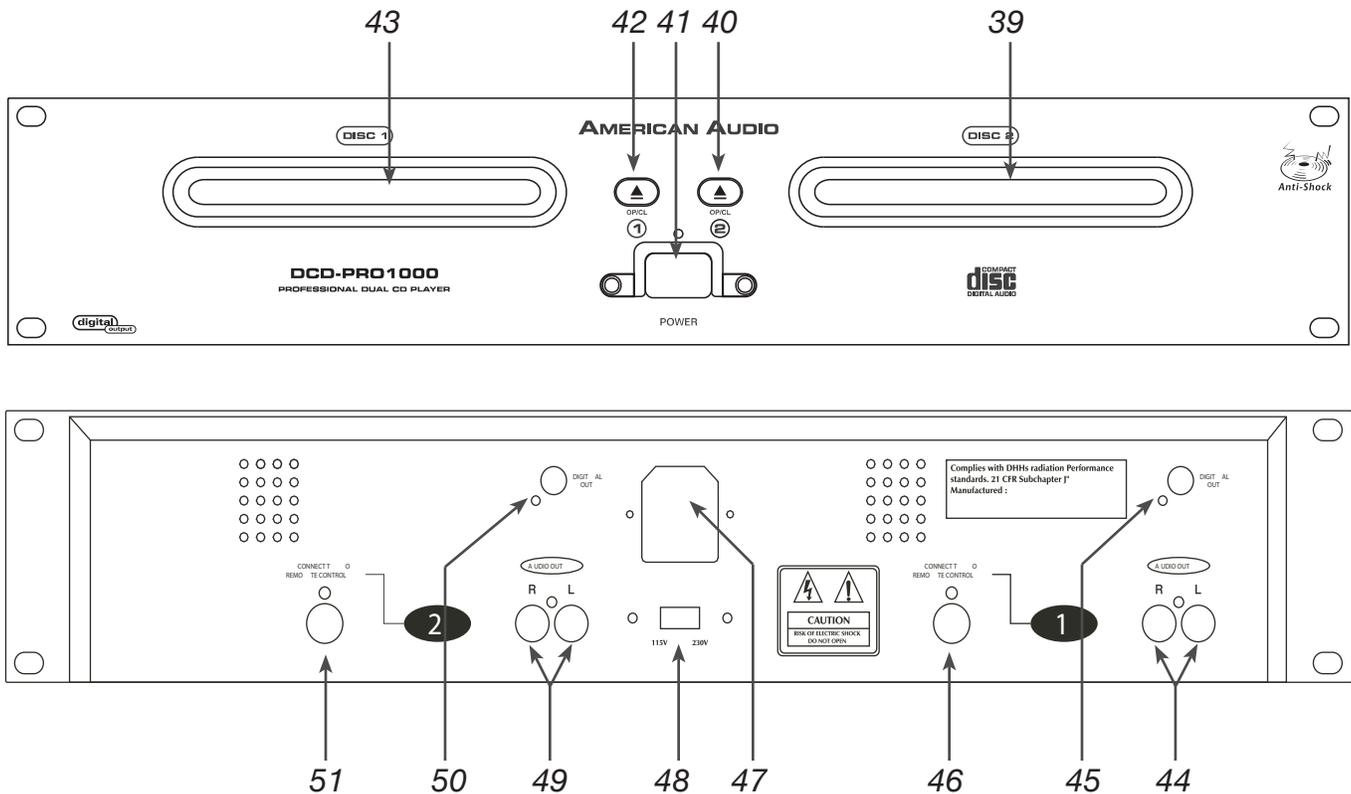

Figure 4
B. TRANSPORT UNIT (FIGURE 4)
39. DRIVE 2 TRANSPORT TRAY - This tray is used to load and unload a compact disc in to the drive 2 mechanism. The tray is opened and closed by pressing the DRIVE 2 OPEN/CLOSE BUTTON (40). Never attempt to force the transport tray to open or close when the power is turned off.